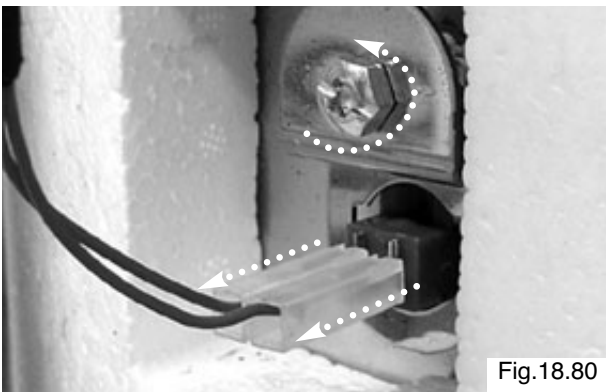

Fig.18.80
2. Pull off the NTC connections. Then remove the NTC from the tank by removing the screws (see Fig. 18.80).